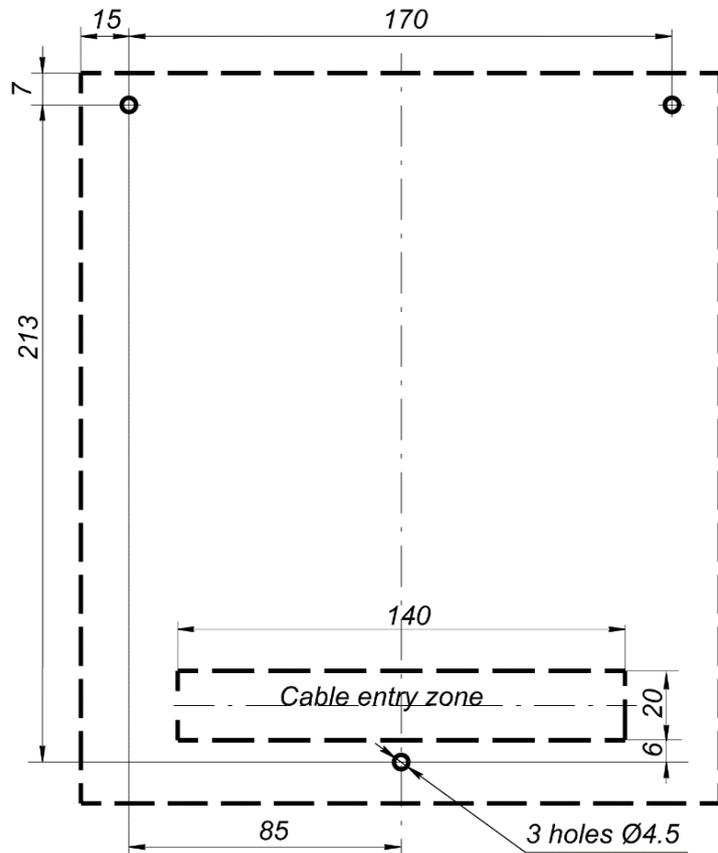

Figure 2. Hole marking for controller installation
3. Mark and drill holes in the surface to install the controller and connect cables in accordance with Fig. 2. Lead the communication cables, power cables and *Ethernet* cables to the location.